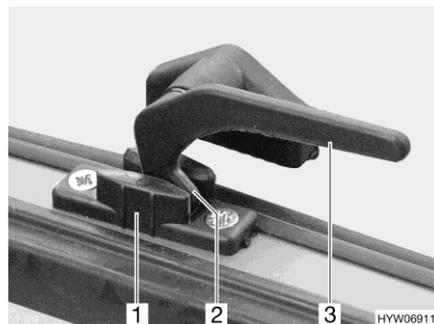

Fig. 40 Catch lever ("continuous ventilation" position)
- "Continuous ventilation" (Fig. 40)
- Turn all catch levers (Fig. 40,3) a quarter turn towards the centre of the window.
- Return all catch levers to their initial position. The locking catch (Fig. 40,2) has to be moved into the recess of the window catch (Fig. 40,1).